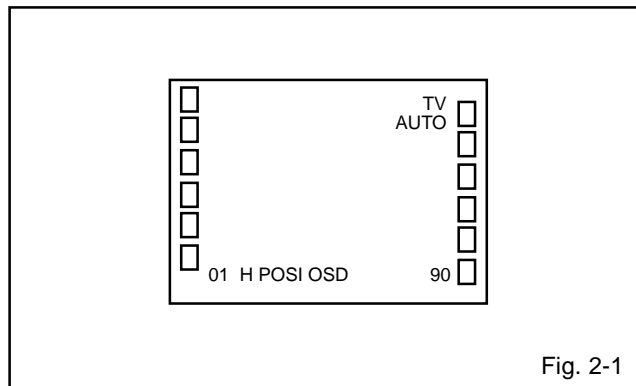

Fig. 2-1
2. Press the VOL. DOWN button on the set and the channel button (**9**) on the remote control for more than 2 seconds to display adjustment mode on the screen as shown in **Fig. 2-1**.
3. Activate the adjustment mode display of **Fig. 2-1** and press the channel button (**36**) on the remote control to select "CONTRAST MAX".
8. Activate the adjustment mode display of **Fig. 2-1** and press the channel button (**36**) on the remote control to select "CONTRAST MAX".
15. Activate the adjustment mode display of **Fig. 2-1** and press the channel button (**36**) on the remote control to select "CONTRAST MAX".
20. Activate the adjustment mode display of **Fig. 2-1** and press the channel button (**36**) on the remote control to select "CONTRAST MAX".
5. Activate the adjustment mode display of **Fig. 2-1** and press the channel button **(03)** on the remote control to select "R DRIVE (N)".
6. Press the CH. UP/DOWN button on the remote control to select the "R CUTOFF (N)", "B.DRIVE(N)", "B CUTOFF (N)", "R DRIVE (C)", "R CUTOFF (C)", "B.DRIVE(C)", "B CUTOFF (C)", "R DRIVE (W)", "R CUTOFF (W)", "B.DRIVE(W)" and "B CUTOFF (W)".
7. Adjust the VOL. UP/DOWN button on the remote control to whiten the R CUTOFF (N), B.DRIVE(N), B CUTOFF (N), R DRIVE (C), R CUTOFF (C), B.DRIVE(C), B CUTOFF (C), R DRIVE (W), R CUTOFF (W), B.DRIVE(W) and B CUTOFF (W) at each step tone sections equally.
5. Activate the adjustment mode display of **Fig. 2-1** and press the channel button **(28)** on the remote control to select "BRIGHT CENT".